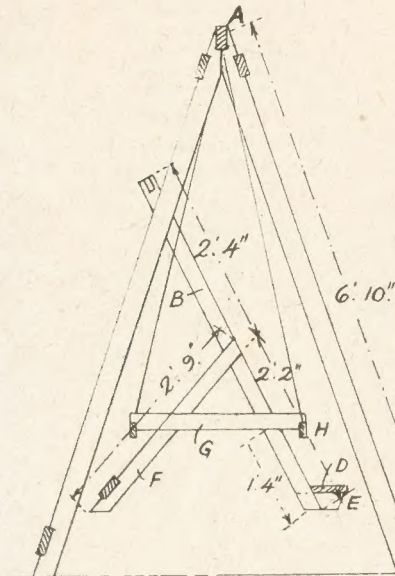

Fig. 1—End view with lettered parts
Figs. 1 and 2 show side and front views respectively of the completed thing with dimensions of the supports and the chair. The actual canvas seating has been omitted in each diagram. The Cutting List given will be found most useful when cutting off the various lengths of wood.
sides—rails (B) and (F) and there screw securely at a height of 1ft. 4ins. up, as seen in Fig. 1.